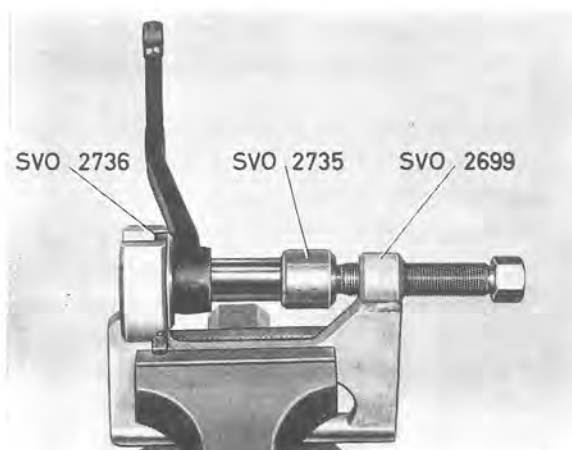

Fig. 6-50. Installing rubber bush, relay arm
5. Turn the relay arm and press in the new bush with tools SVO 2699 + SVO 2736 and drift SVO 2735 (see Fig. 6-50).
6. Place the relay arm in position, fit the washer (7) and the nut. Tighten the nut to a torque of 7.0—8.5 kpm (50—60 lb.ft.).